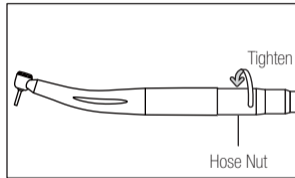

Fig. 3
- 1) Insert the handpiece correctly into the hose connector and tighten the Hose Nut. (Fig.3)